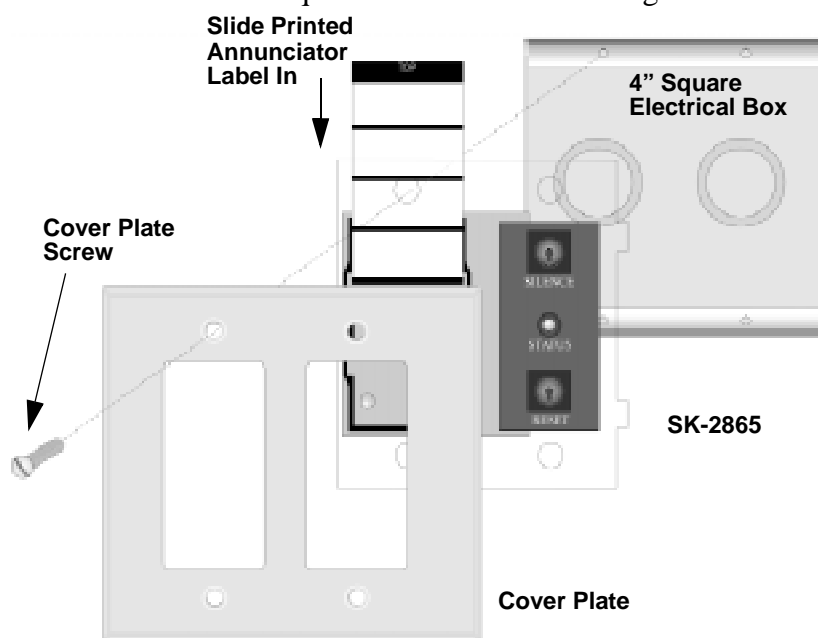

Figure 4-12 Mounting the SK-2865
3. Place the SK-2865 into the 4" square electrical box. See Figure 4-12.
4. Place the cover plate over the top of the SK-2865 and align the holes. See Figure 4-12.